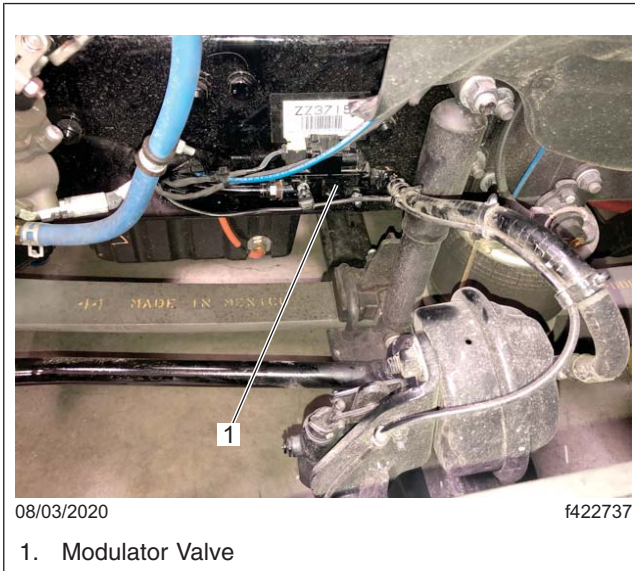

Fig. 2, Location of the Modulator Valve
1. Locate the modulator valve on the front-left frame rail, behind the wheel. See Fig. 2